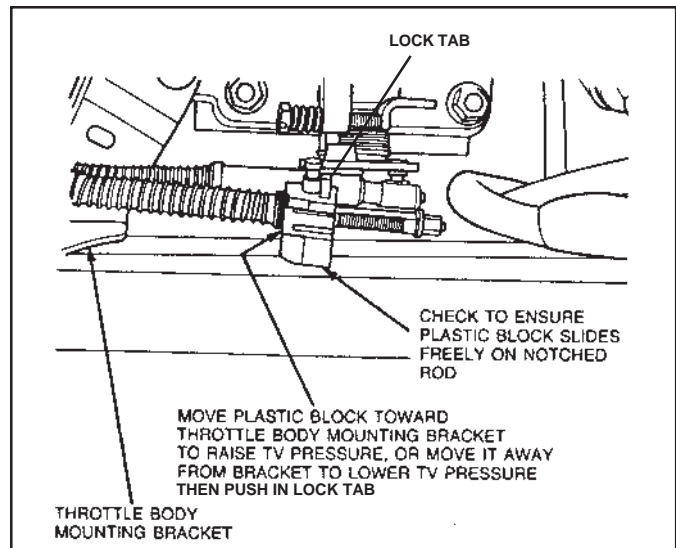

Figure 28
- 7.12 Using mark or measurement on plastic block as a reference, move plastic block towards throttle body mounting bracket to raise TV pressure, or move it away from bracket to lower TV pressure. Push in white locking tab to lock block in position. (See Fig. 28.)